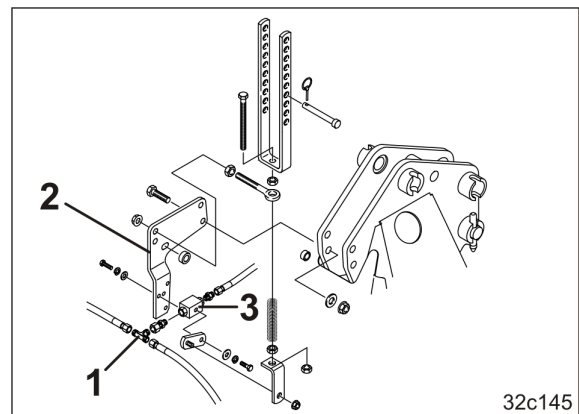

Fig. 82
6. Unscrew the hydraulic hose line from the T-connector (Fig. 82/1).
7. Screw on the valve holder (Fig. 82/2).
8. Connect the hydraulic hoses to the valve (Fig. 82/3).